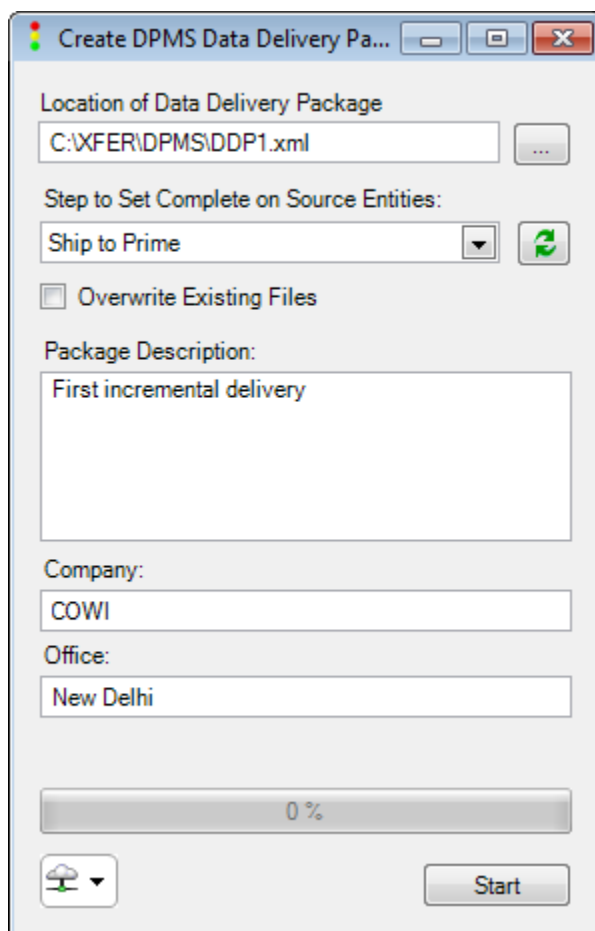

Figure 5-2: The Create Data Delivery Package dialog
3. Fill in the Create Data Delivery Package fields (Figure 5-2):